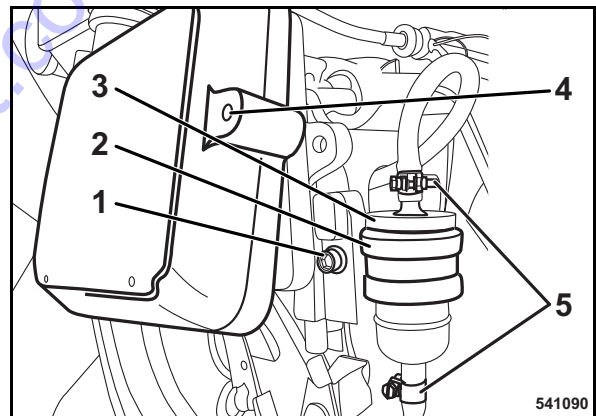

Fig. 62
- Unscrew the fastening screw (4) (Fig. 62) from both sides of the air filter cover.
- Loosen hose clamps (5) and pull the fuel hoses off the fuel filter (3).
- Loosen the screw (1) to be able to loosen the clamp (2).